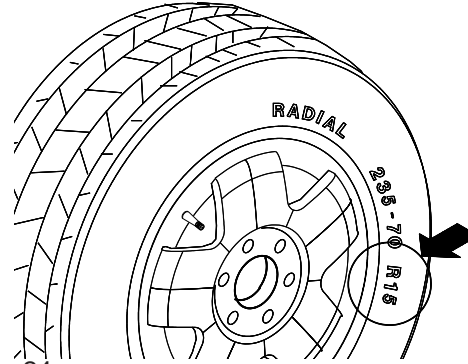

Figure 24
**4.5.3 Rim Diameter Entry** - Select the Manual Diameter button (#11 page 9). Read the rim diameter marked on the sidewall of the tire (Figure 24). Press the Diameter Button and enter the measured rim diameter by rotating the shaft until the desired value appears in the right display.